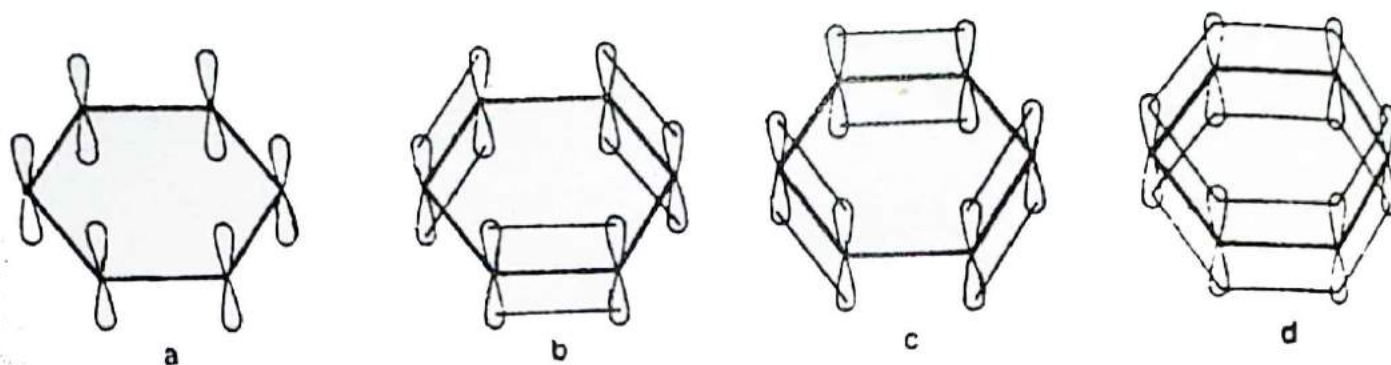
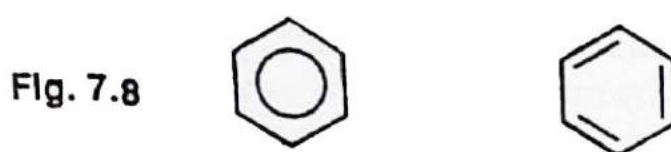

Fig. 7.7
Fig. 7.8
carbon atom. These six  $2p_z$  electrons or orbitals on each carbon atom are perpendicular to the plane of the ring and parallel to each other as shown in figure 7.7 (a).
The electrons in these  $p$ -orbitals can be paired in two ways (as shown in figure 7.7 b,c) and since the carbon-carbon bond lengths are all  $1.39 \text{ \AA}$ , each orbital overlaps its neighbour equally and, therefore, all the six can be regarded as forming a single molecular orbital (M O) embracing all the six carbon atoms as shown in figure 7.7 d.
**Modern Representation of Benzene Structure:—** The molecular orbital representation of benzene as shown in figure 7.7 a and d are useful for understanding the high stability of the benzene ring but inconvenient for normal use. Two symbols are at present commonly used to represent the benzene molecule. These are: (1) A regular hexagonal with an inscribed circle and (2) A hexagonal with alternate single and double bonds. These are shown in Figure 7.8.
**Electrophilic Substitution Reactions:—** If we look again at the figure 7.7 a, d we will observe that there is a cloud of  $\pi$ -electrons above and below the